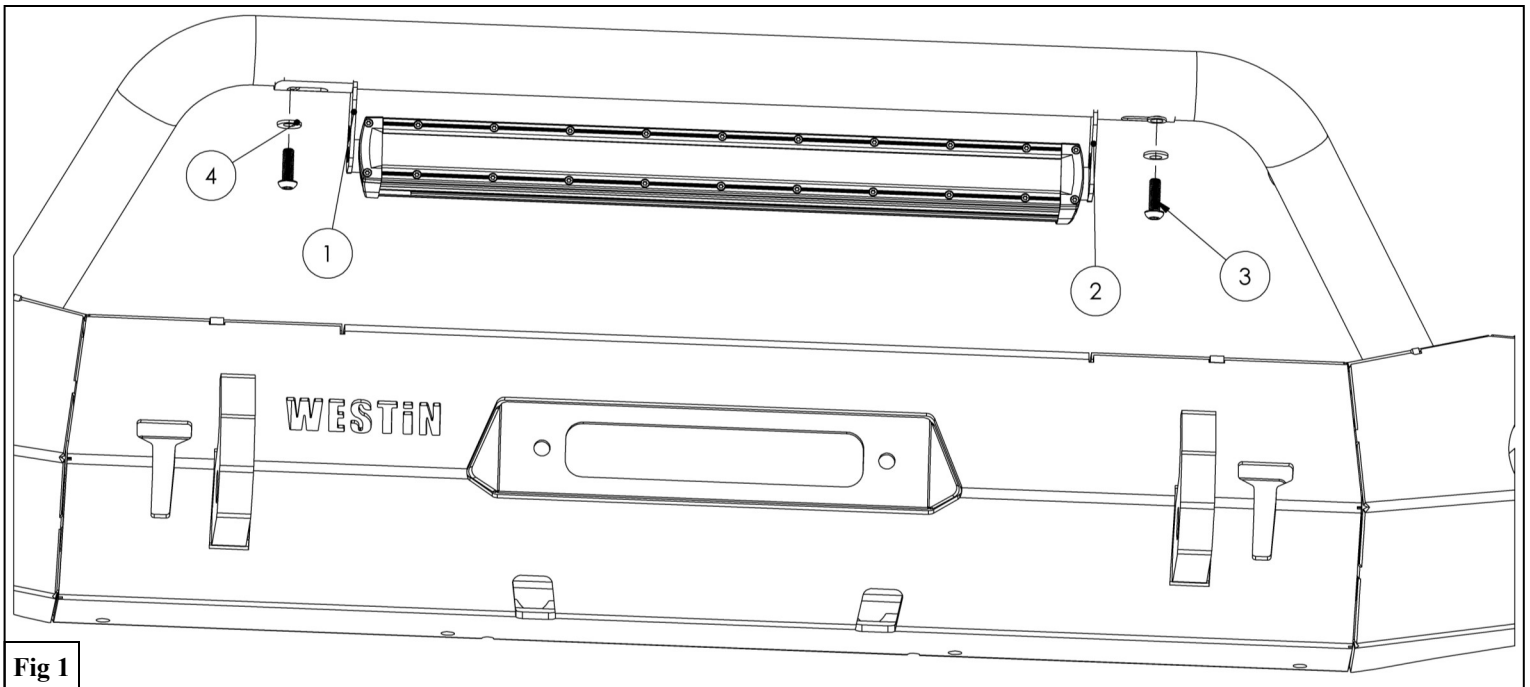

Fig 1
2. Start installation by locating the Driver Mounting Bracket (Item 2). Align the bracket to the hole on the farthest side of the driver's side. Loosely install the bracket using the M8 hardware provided. **See Figure 1.**
3. Repeat step 2 for the Passenger Mounting Bracket (Item 1). **See Figure 1.**